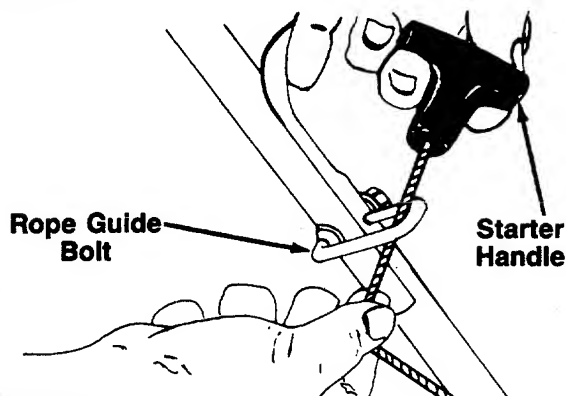

FIGURE 6.
3. Slip the starter rope into the rope guide bolt as shown in figure 6.